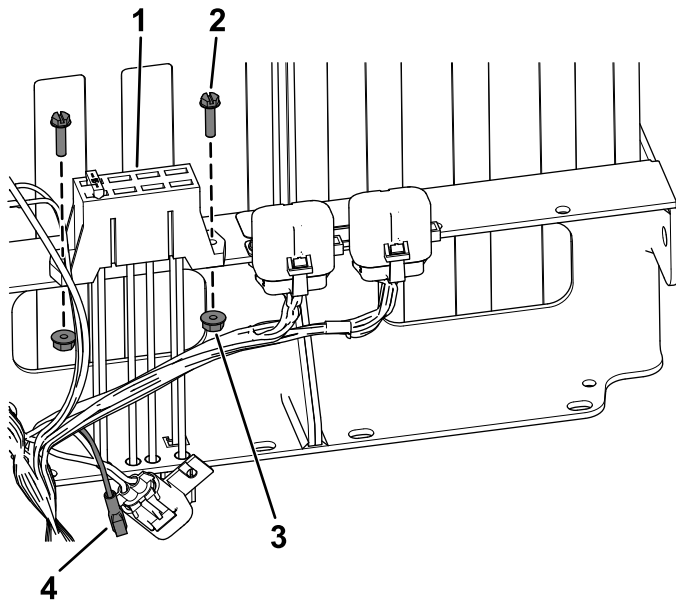

Figure 18
- **For machines with Serial No. 403448001 and after**, secure the new fuse block using the 2 hex-washer head screws (#10 x 3/4 inch) and 2 serrated nuts (#10) as shown in Figure 18.
2. **For machines with Serial No. 403448001 and after**, connect the female connector on the harness to the new fuse block (Figure 18).